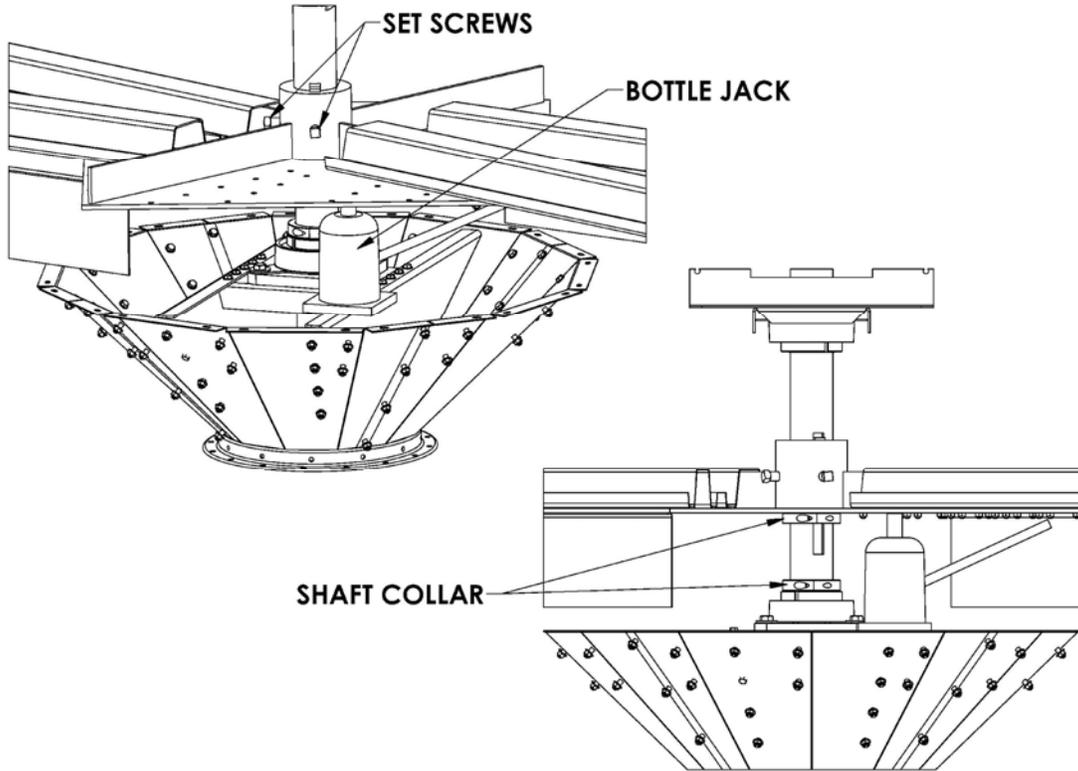

Fig. E-4 – Securing rotor height with shaft collars
3. **Set height of rotor on shaft.** Scraper blades should be as close to grain floor as possible without touching it. Make sure all washers/spacers are removed between drive hub and main arms. Raise (or lower) drive hub until scraper blades are just higher than highest point of grain floor. To raise rotor, loosen setscrews on drive hub and use a bottle jack between drive hub and lower bearing support plate. See Fig. E-4. Two jacks may be needed if hub binds on shaft.
After drive hub is raised up on shaft, tighten setscrews and position two shaft collars between bottom of drive hub and top of lower bearing as shown in Fig. E-4. This keeps shaft and drive hub from slipping down.